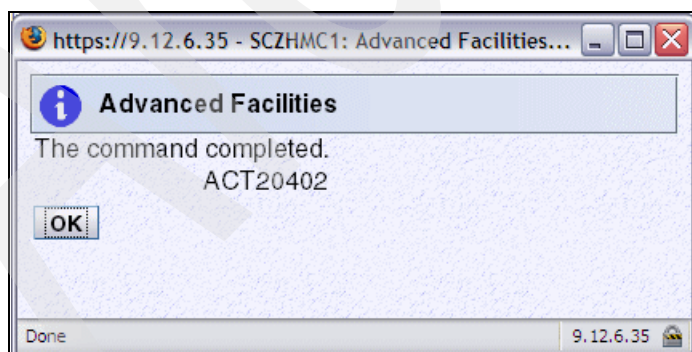

Figure 4-33 HMC - OSA Advanced Facilities (Export completed)
10. The HMC writes the configuration data for the Channel ID that was selected onto the diskette and displays a “command completed” panel when it has finished; see Figure 4-33. Click **OK**.